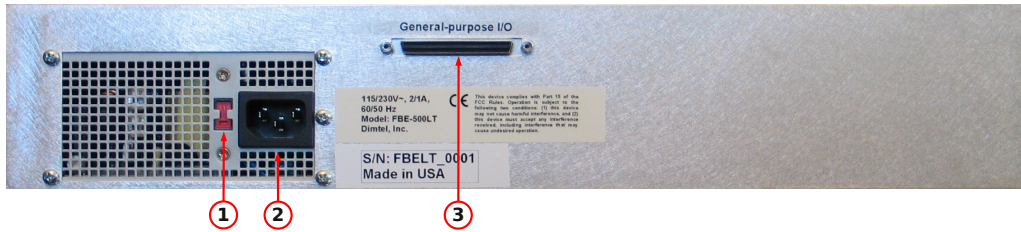

Figure 3: Rear panel features
WARNING: Before connecting power to the unit make sure the voltage selection switch (Fig. 3, item 1) is in the correct position (115 or 230 V).
1. Configure voltage selection switch (Fig. 3, item 1). Mains supply requirements for the FBE-476LT are listed in Table 4;
9. Using the supplied 68-pin **GPIO** cable connect the iGp/iGp12 interface (Fig. 3, item 3) to the **GPIO** connector on the iGp/iGp12;